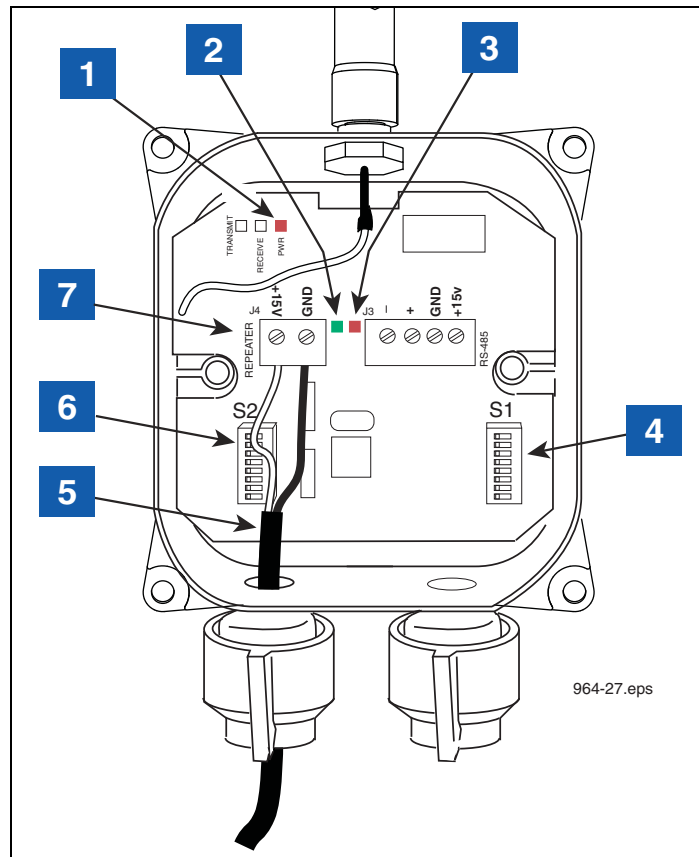

Figure 21. Wiring The Repeater
9. +15 Vdc power source for the Repeater. If used, connect two wires from item 9 connector in Receiver to item 7 connector in Repeater, see Figure 21.
4. Note the cover of the Repeater indicates the cord grip to be used for the cable connecting the Repeater to its dc power source (item 5 in Figure 21). Remove the cover of the Repeater and set it aside.
6. Connect the 2-wire dc power cable to the Repeater terminal block, white to +15 Vdc and black to GND (see item 7 in Figure 21).
LEGEND FOR NUMBERED BOXES IN Figure 21